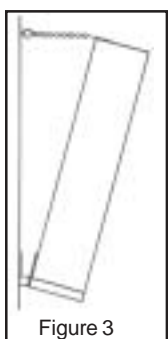
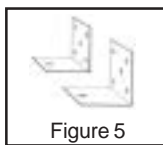
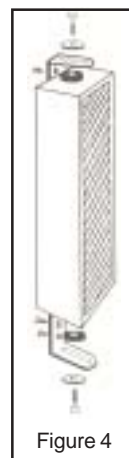

Figure 3
Figure 5
Figure 4
(2) a hinge, chain and hooks to permit forward tilting (Figure 3) for more precise beaming of the coverage pattern. If the column is being mounted in a location that requires the cabinet to be swiveled sideways as well as tilted to properly position the sound intensity, an optional mounting hardware kit (model NSC-BR) shown in Figure 4 is available.
**Model SC-408** hardware consists of a hinge, chain and hooks to permit forward tilting (Figure 3). Optional hardware kit (model SC-BR) shown in Figure 5 is available if the cabinet must be swiveled sideways for proper alignment.